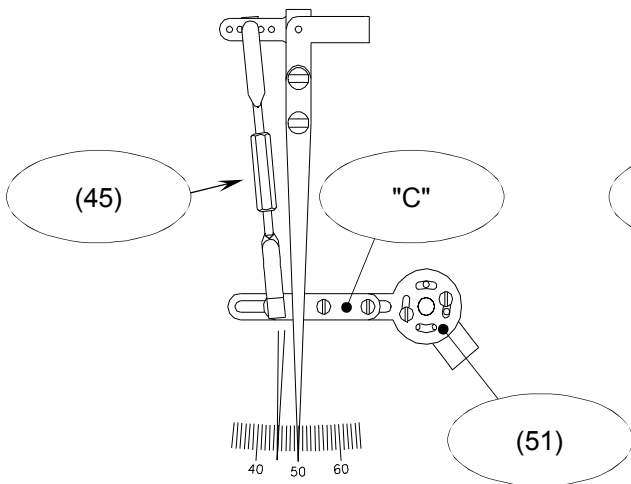

Fig. 8.1.1
Correct any minimal deviations of the black indicator (measured variable) from the real value by turning the hexagonal part of the tie rod (45) (see Fig 8.1.1 and 8.1.2).
See Fig. 8.1.1 for temperature and pressure elements. See Fig. 8.1.2 for 3÷15 psi receiving elements.